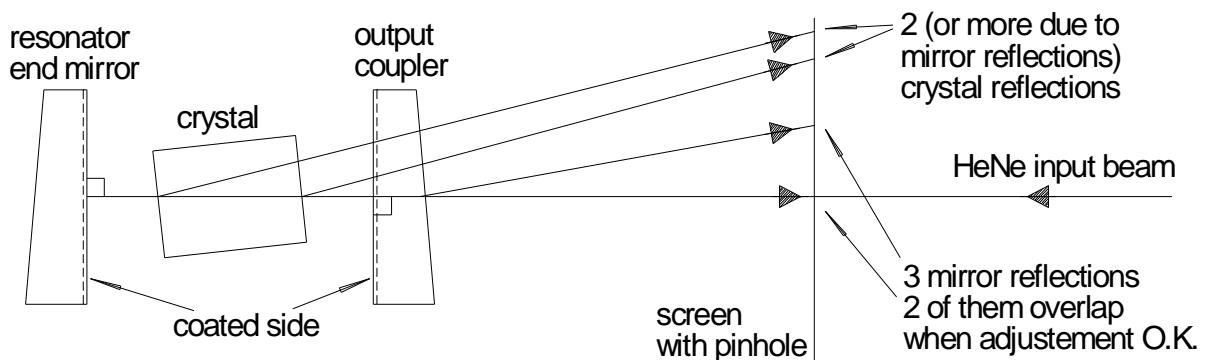

Figure 9: HeNe reflections from the well aligned versaScan cavity
- Observe the back reflections from the resonator mirror surfaces (see fig. 9).
- Adjust the mirrors in a way that the two reflections from the coated mirror surfaces are superimposed with the input beam (see fig. 9). In this case you may notice an interference pattern on the screen around the pinhole.
- Observe the back reflections from the resonator mirror surfaces (see fig. 9). Note: The output coupler is wedged. You will see 2 reflections from the output coupler. The stronger reflection is the one from the coated surface when using a visible alignment laser.